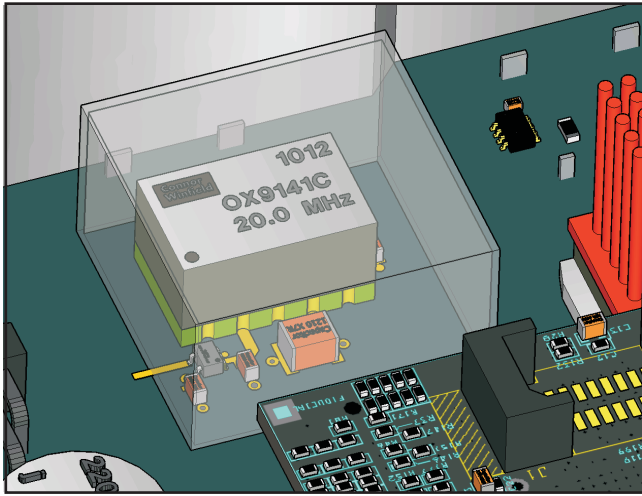

Figure: 16-01
- Plastic and metal covers can be used to further reduce small temperature fluctuations in the system by reducing variable air flow across the device. An effective cover will should still allow a small air gap between the OXCO and any wall of the cover. SEE FIGURE 16-01